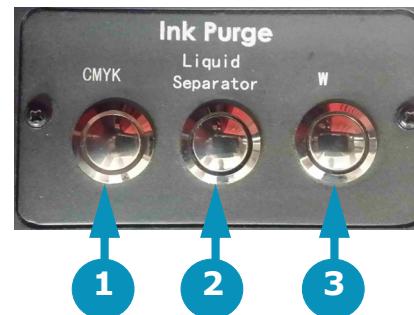

Figure 6-8: Manual Ink Purge Buttons
3. Use the manual Ink Purge buttons located in the carriage HOME compartment (See Figure 6-8). Then follow up with a head sweep performed from the EFI Pro 16h Control screen.